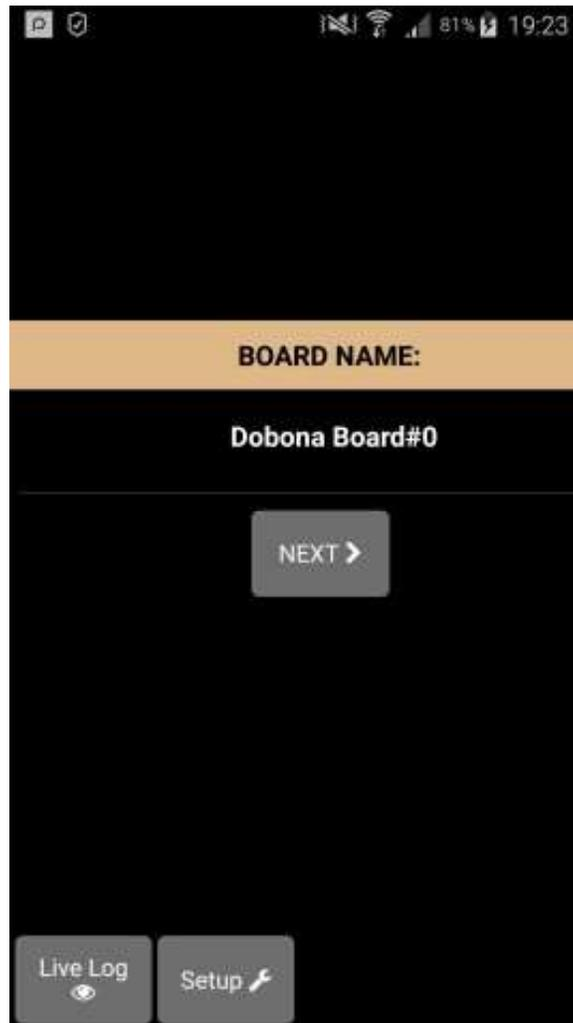
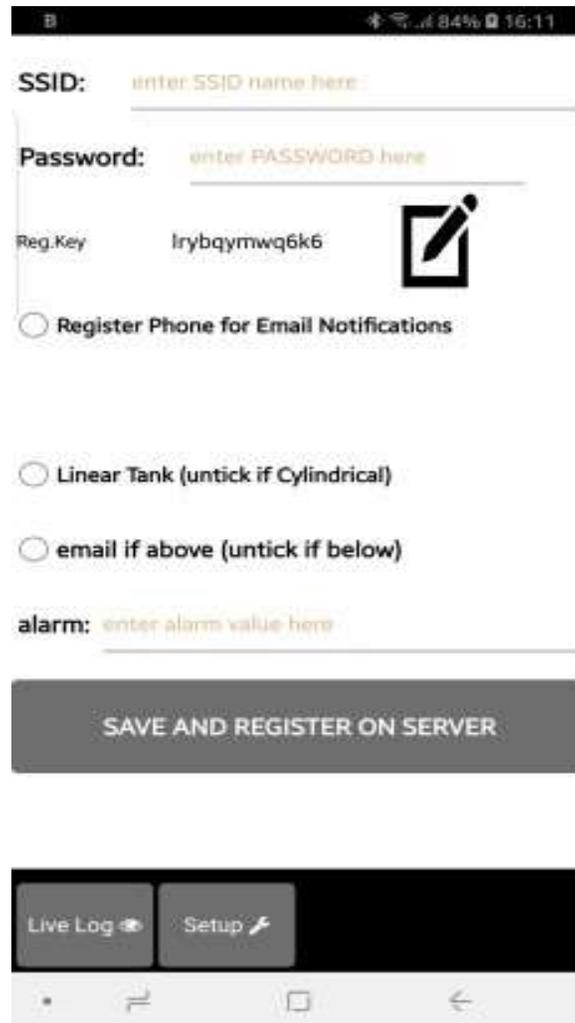

Fig 4.
Fig 5.
7. User is then presented with the next screen where he is prompted to enter a name for the dobona board he chose (Fig.4). Supposing he writes "Diesel_Tank" as name and makes sure the phone/tablet has an internet connection, and presses on the next button, he is taken to a new screen to register the board on the server (Fig.5).